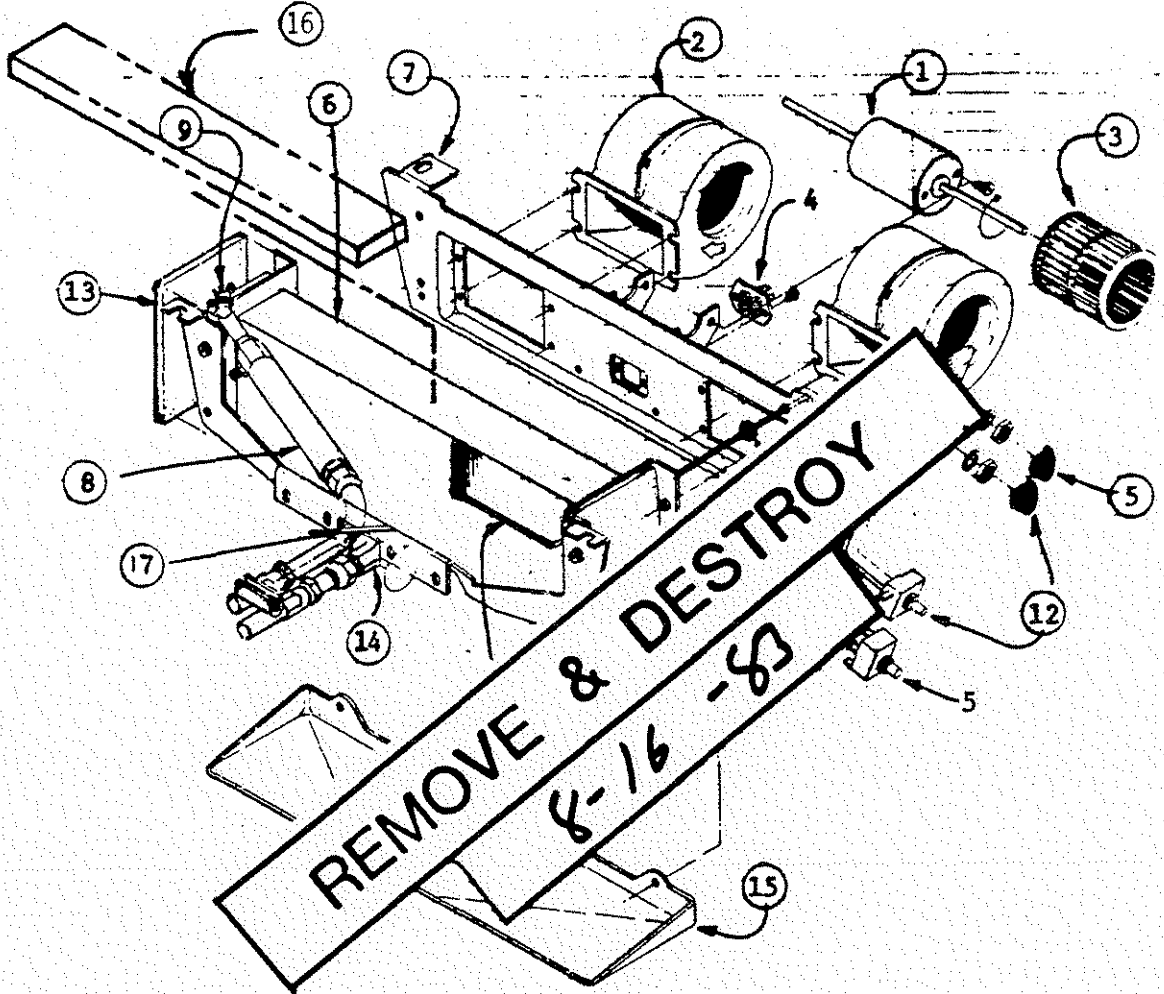

Fig. 1
A. EVAPORATOR BLOWER MOTOR AND HOUSING (See Fig. 1)
1. Center blower motor (1) on mounting bracket with the wire leads to the right side as viewed from the back. Rotation is counter-clockwise viewed from the wire end.
3. Install the fan housings (2) by positioning them over the blower motor shaft ends, then install screws attaching the fan housings to the evaporator frame. Position the fan (3) on the blower motor shaft and tighten the Allen head set screw. Hubs on fan wheels must both be to the RH side as viewed from the back, the hub being that portion that contains the set screw.
B. RESISTOR AND BLOWER MOTOR SWITCH (See Fig. 1)
1. Install resistor (4) blower motor switch (5) in the evaporator frame.
C. EVAPORATOR COIL (See Fig. 1)
1. Position evaporator coil (6) in frame (7) and attach to frame with machine screws.
2. Apply refrigerant oil to O-ring(s) and fittings, then connect suction throttling valve (8) to evaporator coil and thermostatic expansion valve (14) to evaporator coil. Connect equalizer line to suction throttling valve. Tighten connections when tightening connections to avoid twisting of tubing. Tighten connections to the torque values given in Table 1 under "TORQUE VALUES", 33-22208.
3. Clamp thermal bulb (9) to suction line with a plastic or copper retainer strap. Seal bulb with refrigeration insulating tape. (Ref. 4)
4. Position the suction line (10) through the frame grommet(s) then through the frame fins near the end. Use a thin screwdriver or an awl to make holes in the frame for tubing insertion, then insert tubing below the suction line. Make a hole in the frame below the second row of tubes on the opposite side of the frame and 1" deep.
5. Position thermostat switch (12) in the frame, then install the nut attaching the switch to the frame.
6. Install refrigeration tape and insulating pads (13) over evaporator coil tubing on each end.
D. DRIP PAN (See Fig. 1)
E. SEAL (see Fig. 1) NON SLEEPER CABS ONLY